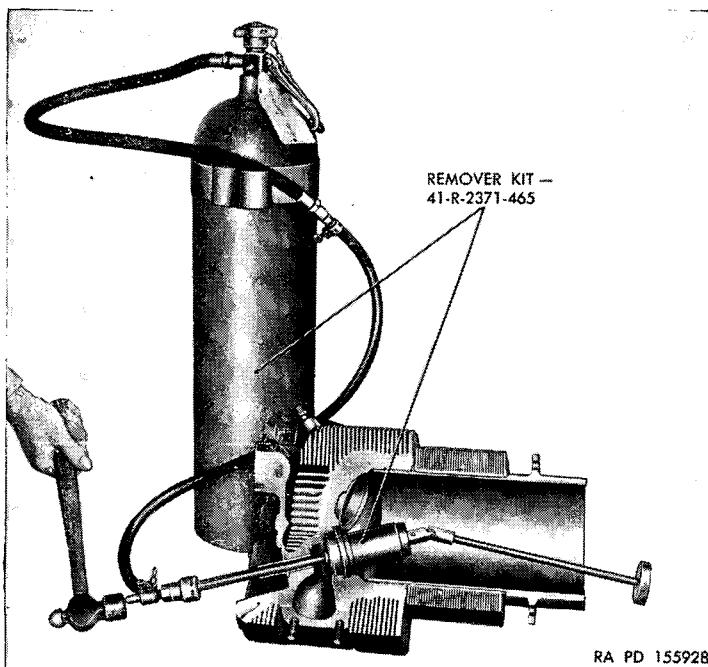

Figure 58. Removing valve (seat) inserts with remover kit.
- (b) To remove a valve (seat) insert, place the proper size collet on the collet arbor. Screw the cone expander into the arbor. Connect the hose furnished with the kit to a CO2 cylinder. Arrange it so the quick detachable fitting may be attached to the extension tube of the collet without delay. Heat the cylinder, in a furnace, to between 450° and 500° F. If a furnace is not available, the insert part of the cylinder may be heated with a blow torch. When the cylinder is heated, immediately insert the collet assembly into the valve (seat) insert from the open end of cylinder. Seat the collet and expand it to the limit by the handwheel. Attach the hose fitting to the tube extending from the cylinder head. Open CO2 valve for 10 to 15 seconds to shrink the insert. Strike the extension on the gas fitting with a hammer to dislodge the insert. Detach the gas fitting. Withdraw the insert while still on the collet. Figure 58 shows the arrangement for removal.